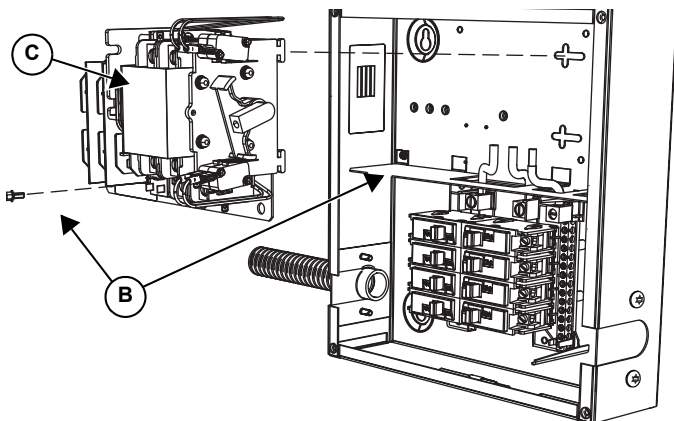

Figure 3-4. Install Automatic Back Plate
5. See Figure 3-4. Remove lower left screw (B) securing divider plate in the transfer switch.